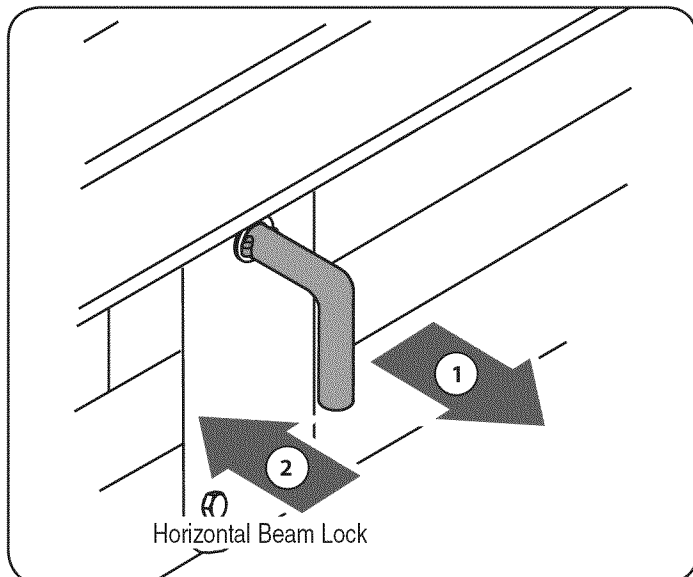

Figure 15
1. Pull the vertical beam lock out and rotate it down. See Figure 15. Pivot the beam to the horizontal position. The beam will lock automatically in the horizontal position.